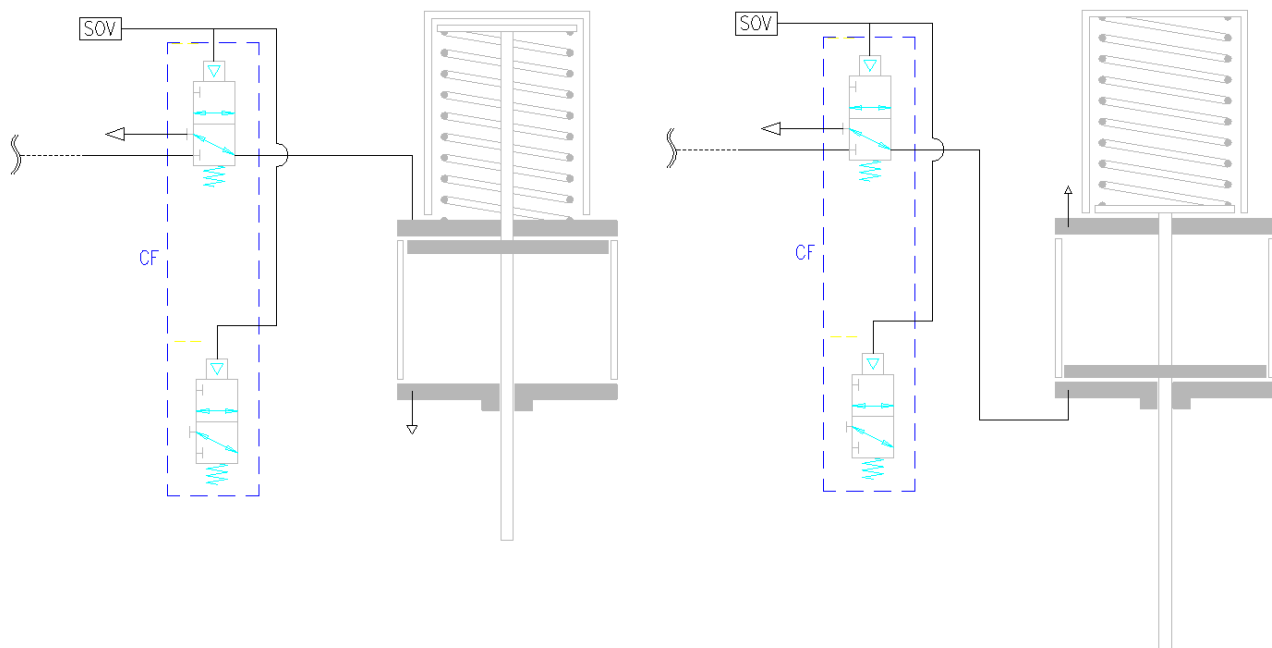

Figure 2 - not energized setup: exhaust mode for single acting pneumatic cylinder
- b) *“The CF performs the safety function on demand if it allows the single acting pneumatic cylinder to discharge in the required time”* (figure 2: one 3-way valve discharges the pneumatic cylinder, the other one is not utilized).